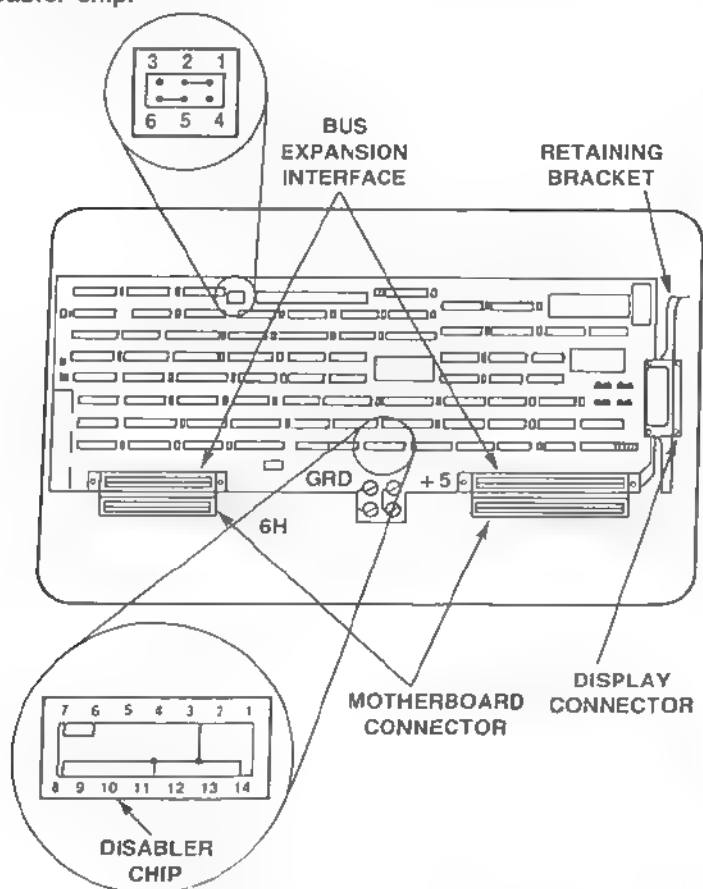

Figure F-1. Jumper Block Location
3. Find the 74LS00 chip on the Display Controller Board, located in position 6H. Refer to Figure F-1 for the placement of this chip.
A disabler (Reconfiguration Chip) can be made using a standard 14-pin Augat header and 20-gauge wire. The header must be wired with pins 3, 8, 11, and 14 connected together and pins 6 and 7 connected to each other. No other pins are connected. Refer to Figure F-1 for a detailed view of the disabler chip.
6. Locate the 6-pin jumper located on the upper-left corner of the Display Controller Board. Refer to Figure F-1 to locate this jumper.